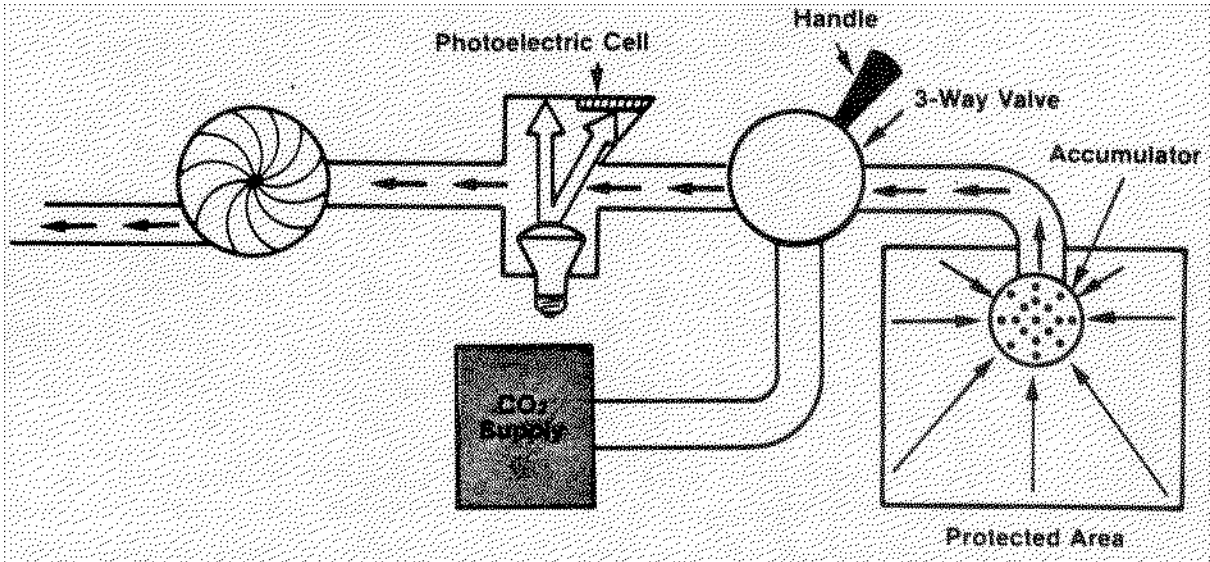

Figure 2-3. Smoke Lines Interconnected With Carbon Dioxide Extinguishing System Through 3-Way Valve
- 2.4 For most spaces on the vessel, the smoke detector piping is also used for the discharge of CO2 (Figure 2-3)